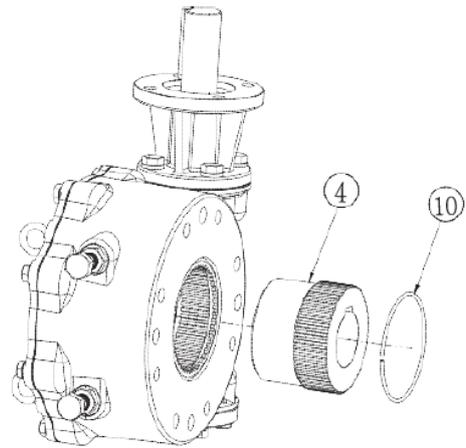

Figure 4: Splined Adapter Assembly
Refer to figures 4 - 9
2. Remove Retaining Ring (item no. 10) and Splined Adapter (item no. 4, see Figure 4).